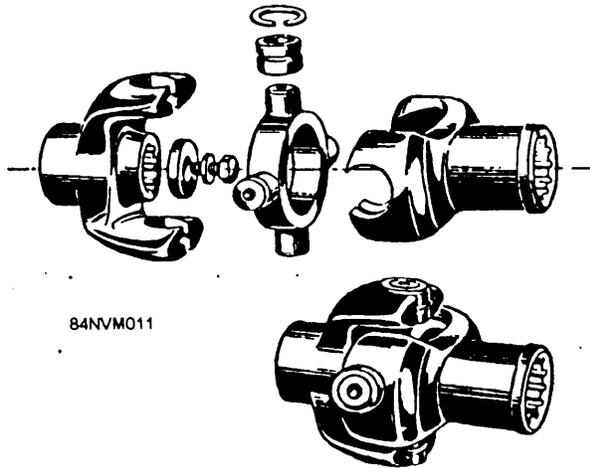

Figure 13-11.—Exploded view.
**EXPLODED VIEWS.**—The exploded view is used to show relative location of parts; it is particularly helpful in assembling complex objects. Notice how the parts are spread out in a line to show clearly each part's relationship to the other parts, as shown in figure 13-11.